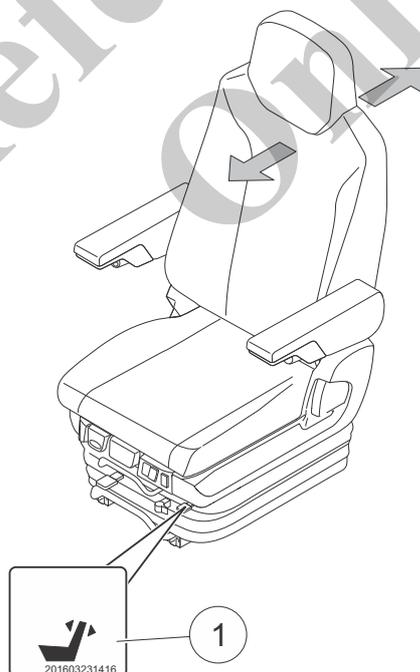

Fig. 62 Adjusting the backrest inclination
- 1 Push lever (Fig. 62/1) upwards.